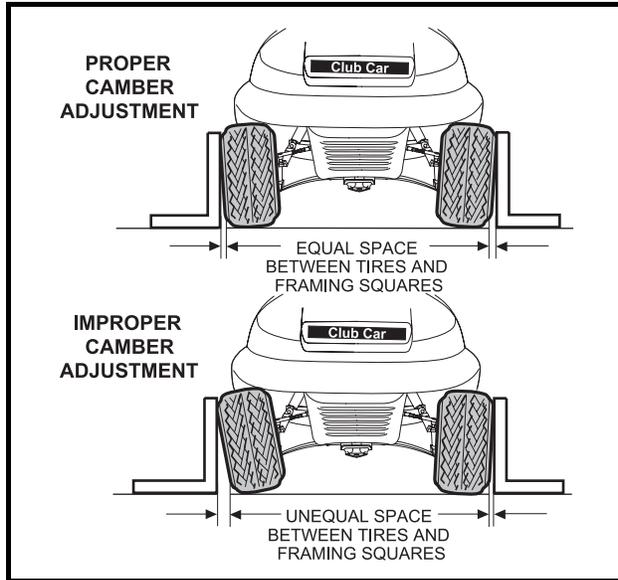
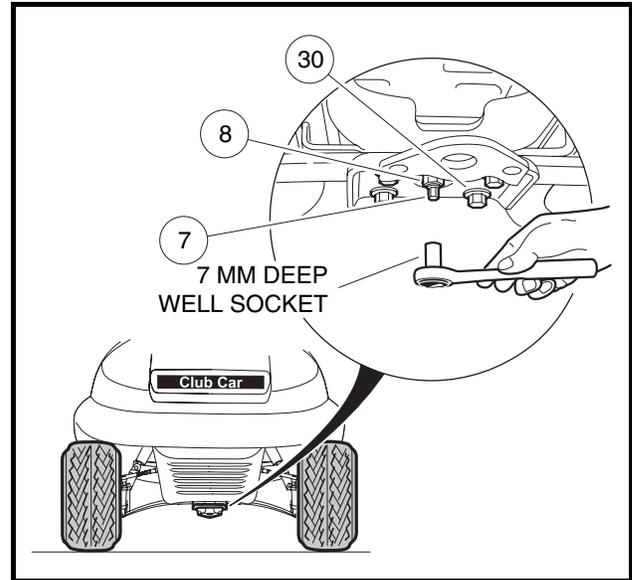
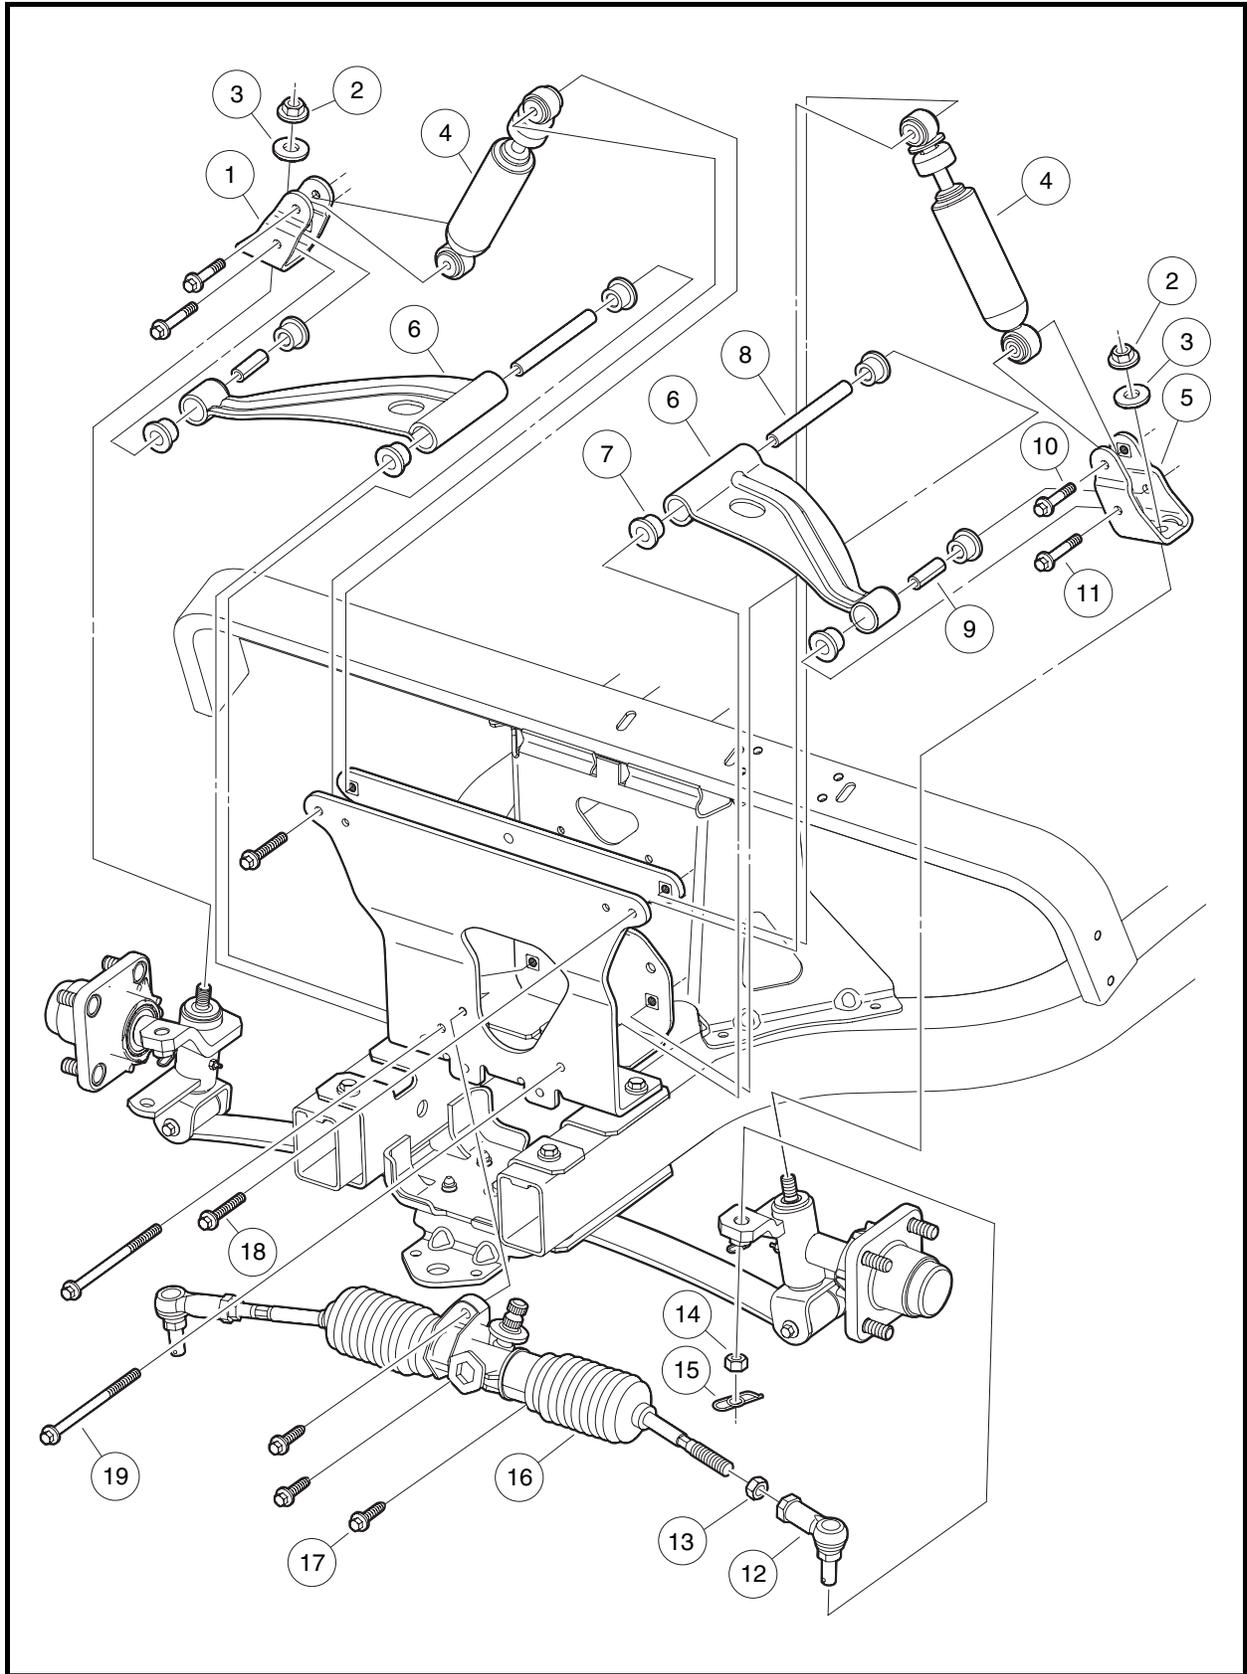
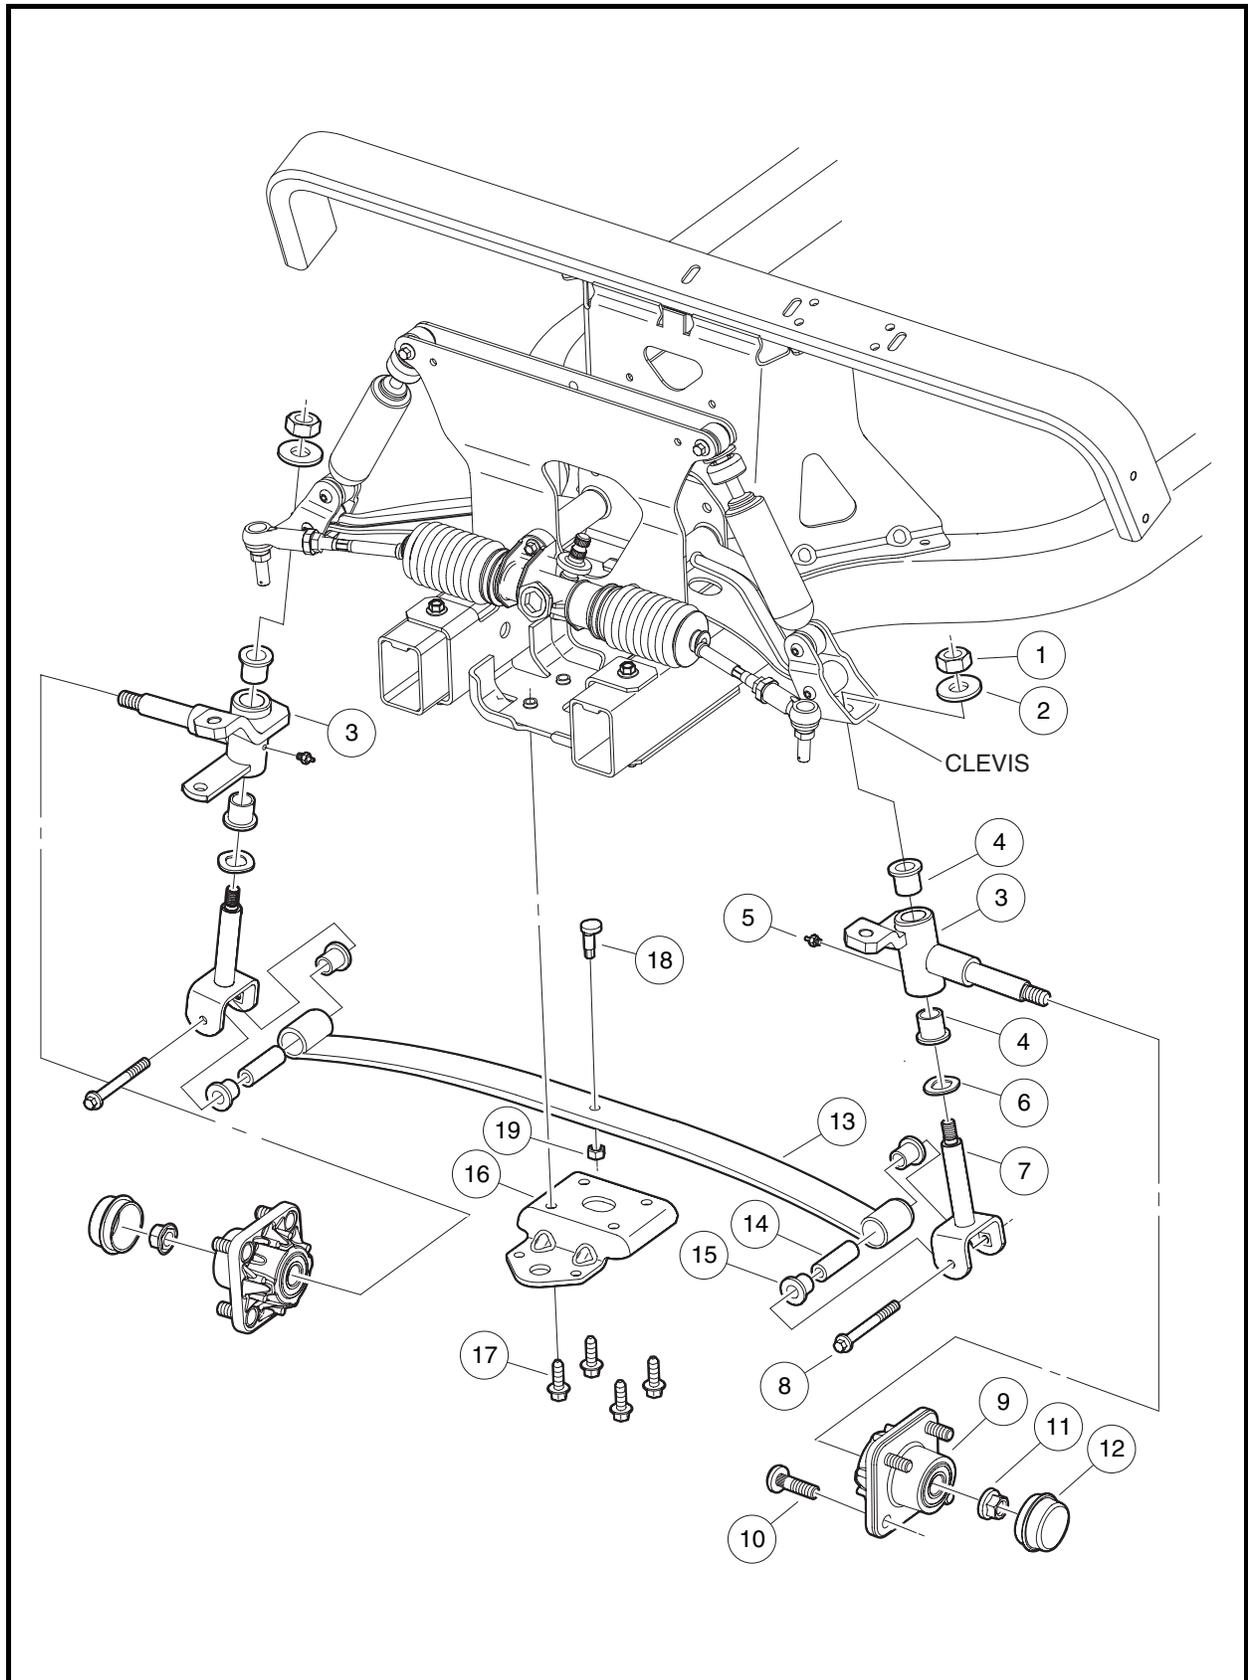

Figure 7-14 Check Camber
Figure 7-15 Adjust Camber
Figure 7-18 Upper Front Suspension Assembly
Figure 7-19 Lower Front Suspension Assembly
1. Check each front wheel with a framing square. At the floor (or ground), there should be an equal amount of space between each tire and the framing square (**Figure 7-14, Page 7-11**).
2. Loosen, but do not remove, the four bolts (17) that secure the leaf spring (13) to the bottom spring plate (16) (**Figure 7-19, Page 7-16**). **See also Figure 7-15, Page 7-11.**
3. Loosen, but do not remove, the hex nut (8) on the adjustment eccentric (7) (**Figure 7-15, Page 7-11**) in the center of the spring. **See also Figure 7-19, Page 7-16.**
4. Use a 7 mm deep well socket to rotate the eccentric (**Figure 7-15, Page 7-11**).
5. After adjusting camber, use a crisscross pattern to tighten the four spring retaining bolts (17) (**Figure 7-19, Page 7-16**) to 23 ft-lb (31 N·m). Then roll the vehicle forward one full tire revolution and recheck the camber. **See also Figure 7-14, Page 7-11.**
6. Tighten the hex nut (8) on the adjustment eccentric (7) to 10 ft-lb (13.5 N·m) (**Figure 7-15, Page 7-11**) **See also Figure 7-19, Page 7-16.**
1. Loosen jam nuts (13) to allow later rotation of the tie rod ends (12) (**Figure 7-18, Page 7-15**).
2. Remove the retaining pins (15) and retaining nuts (14).
1. Thread tie rod ends (12) onto steering gear to a depth of 1/2 inch (12.5 mm) (**Figure 7-18, Page 7-15**).
2. Install tie rod ends (12) into the spindle tabs. Install the retaining nuts (14) and retaining pins (15) (**Figure 7-18, Page 7-15**).
3. Remove the bolts (8) from the bottom of each kingpin (7) **(Figure 7-19, Page 7-16).**
4. Remove the four bolts (17) and bottom spring plate (16).
5. Remove leaf spring (13).
6. Check the condition of the urethane bushings (15) and steel sleeves (14). Replace any that are worn or damaged.
1. Install urethane bushings (15) and steel sleeves (14) into leaf spring eyes **(Figure 7-19, Page 7-16).**
2. Install leaf spring (13), bottom spring plate (16), and four bolts (17). Using a crisscross pattern sequence, tighten bolts to 23 ft-lb (31 N·m).
3. Install spring in kingpins (7) with bolts (8). Tighten to 17 ft-lb (23 N·m).
2. Remove retaining pins (15) and nuts (14), then remove tie rod ends (12) from the tabs on the spindles **(Figure 7-18, Page 7-15).**
3. Remove the nut (1) and conical washer (2) from the top of the kingpin (7) **(Figure 7-19, Page 7-16).**
5. Slide the spindle (3) off the kingpin (7).
6. Remove the wave washer (6) and inspect it. If the washer is broken or has a wave bottom to wave crest height dimension of less than 0.040 inch (1 mm), it must be replaced.
7. Remove bolt (8) from bottom of kingpin (7) and remove kingpin.
9. Inspect the bushings (4). If the bushings are worn or damaged, remove them and press in new ones.
2. Install the kingpin (7) over the leaf spring eye. Insert the bolt (8) **(Figure 7-19, Page 7-16).** Tighten the bolt to 17 ft-lb (23 N·m).
3. Install the wave washer (6) on the kingpin.
4. Install the steering spindle on the kingpin. Place upper clevis over the kingpin threads and install conical washer (2) and nut (1). Tighten the nut to 50 ft-lb (68 N·m).
5. Attach the tie rod ends (12) to the spindle tabs, then install and tighten the nuts (14) to 70 ft-lb (95 N·m). Install the retaining pins (15) **(Figure 7-18, Page 7-15)**.
3. Remove bolts (17) and move rack and pinion to allow clearance for bolt (19) **(Figure 7-18, Page 7-15)**.
5. Remove the control arm (6).
6. Inspect the bushings (7) and sleeves (8 and 9) in the control arm and replace them if necessary.